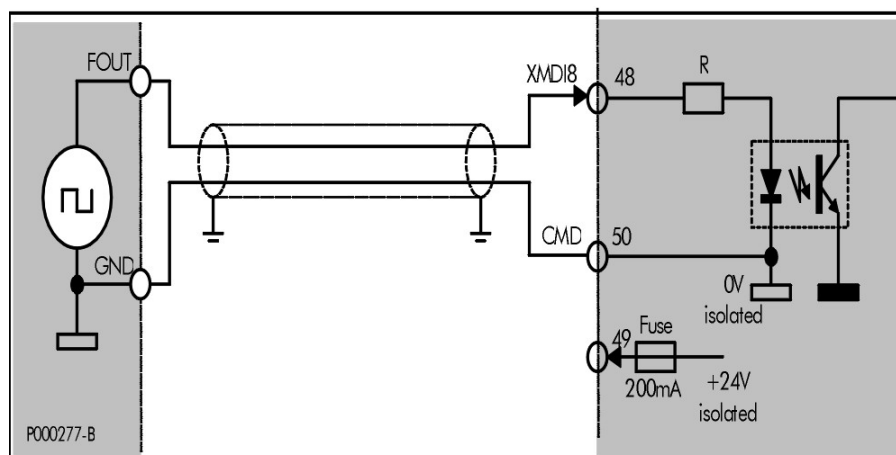

Figure 200: Signal sent from a 24V, Push-pull frequency output
Signals are sent from a 24V Push-pull output with a reference common to terminal CMD (50), as shown in Figure 200).